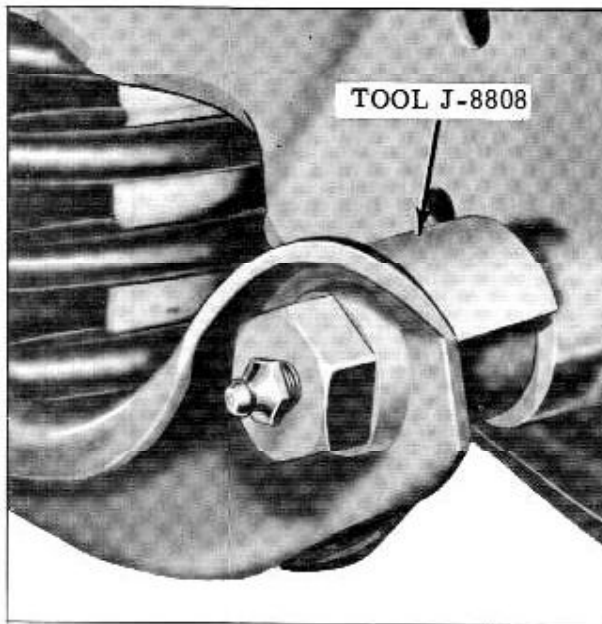

Fig. 5-5 Installing Lower Control Arm
2. Place spacer tool J-8808 in position on shaft. (Fig. 5-5) Spacer must be raised off shaft enough to allow bushing to pass under it.